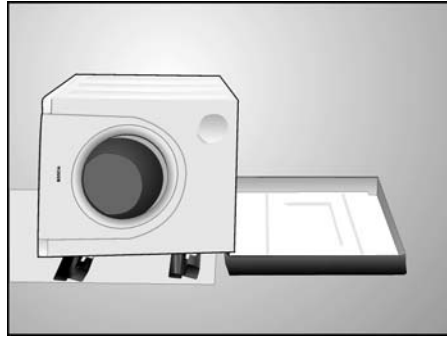

Figure 6
4. Lay the appliance on its **LEFT** side (see **Figure 6**).